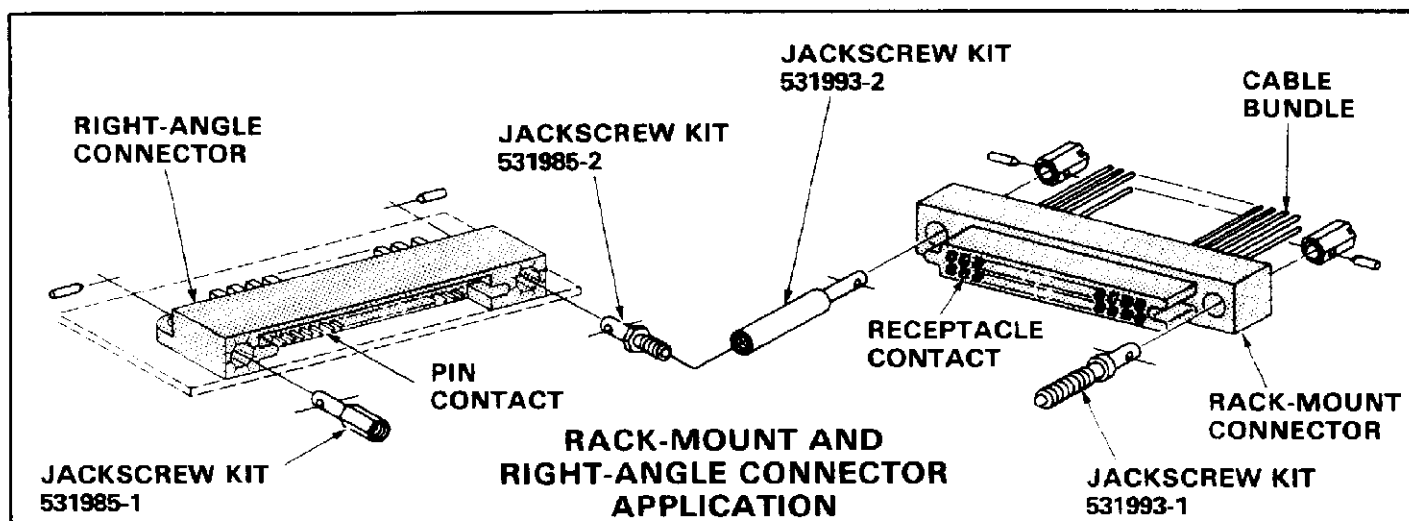

Fig. 5
2. **Rack-Mount and Right-Angle PC Board Connector (Figure 5)**